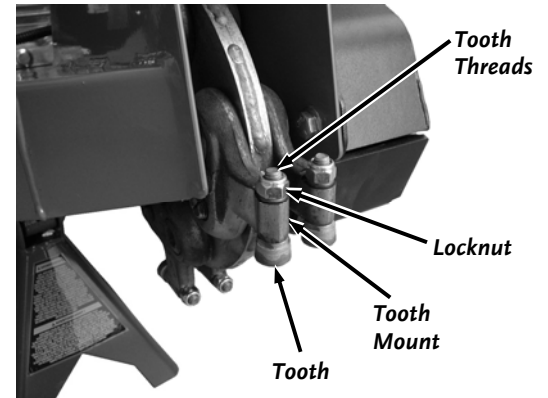

Figure 21
2. Loosen the Locknut on the Tooth until the top of the Locknut is flush with the top of the Tooth threads (**Figure 21**).